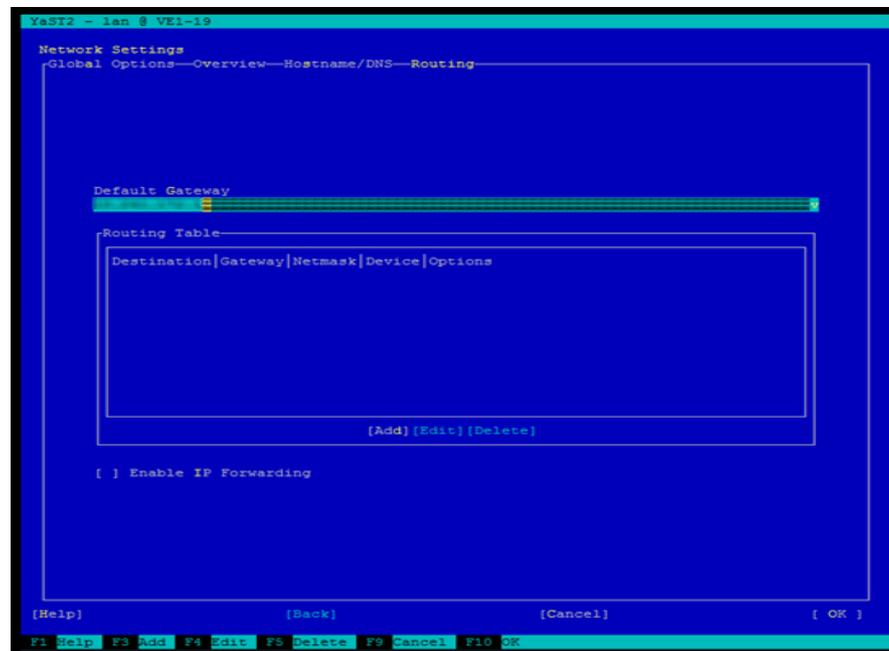
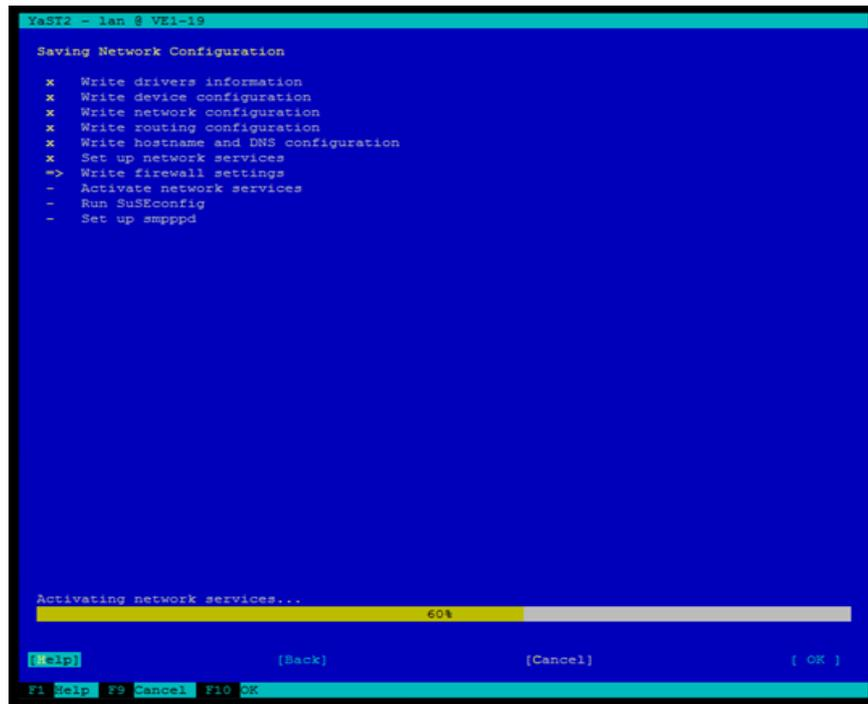

Figure 154 Editing the default gateway
Figure 155 Saving network configuration
- c. Edit the default route/gateway using **Alt-U**, as shown in Figure 154 on page 125. When editing is complete, use **Tab**, **Alt-O**, or **F10** for **OK**. All edits to the network configuration are written to the system configuration and the network services become activated, as shown in Figure 155 on page 126.